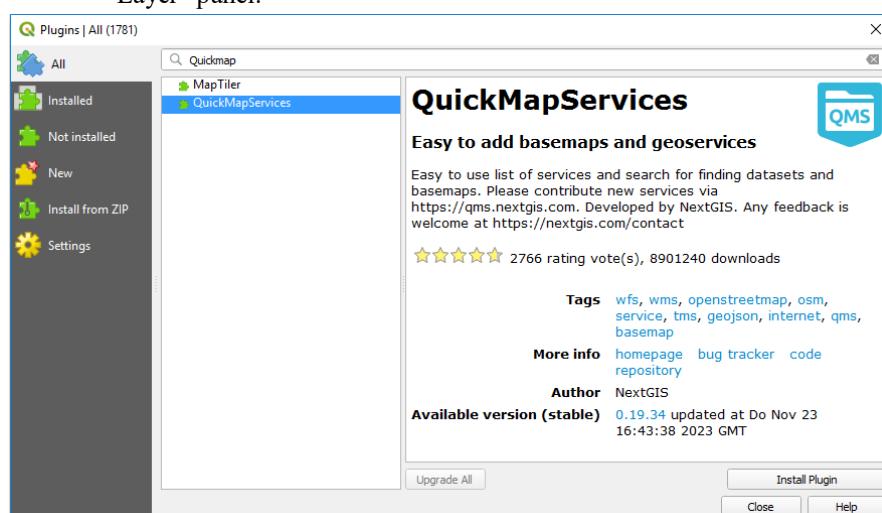

Figure 7: Adding the QuickMapServices to your QGIS installation.
1. Under “Plugins→Manage and Install Plugins...” install the “QuickMapServices” plugin (see Figure 7).